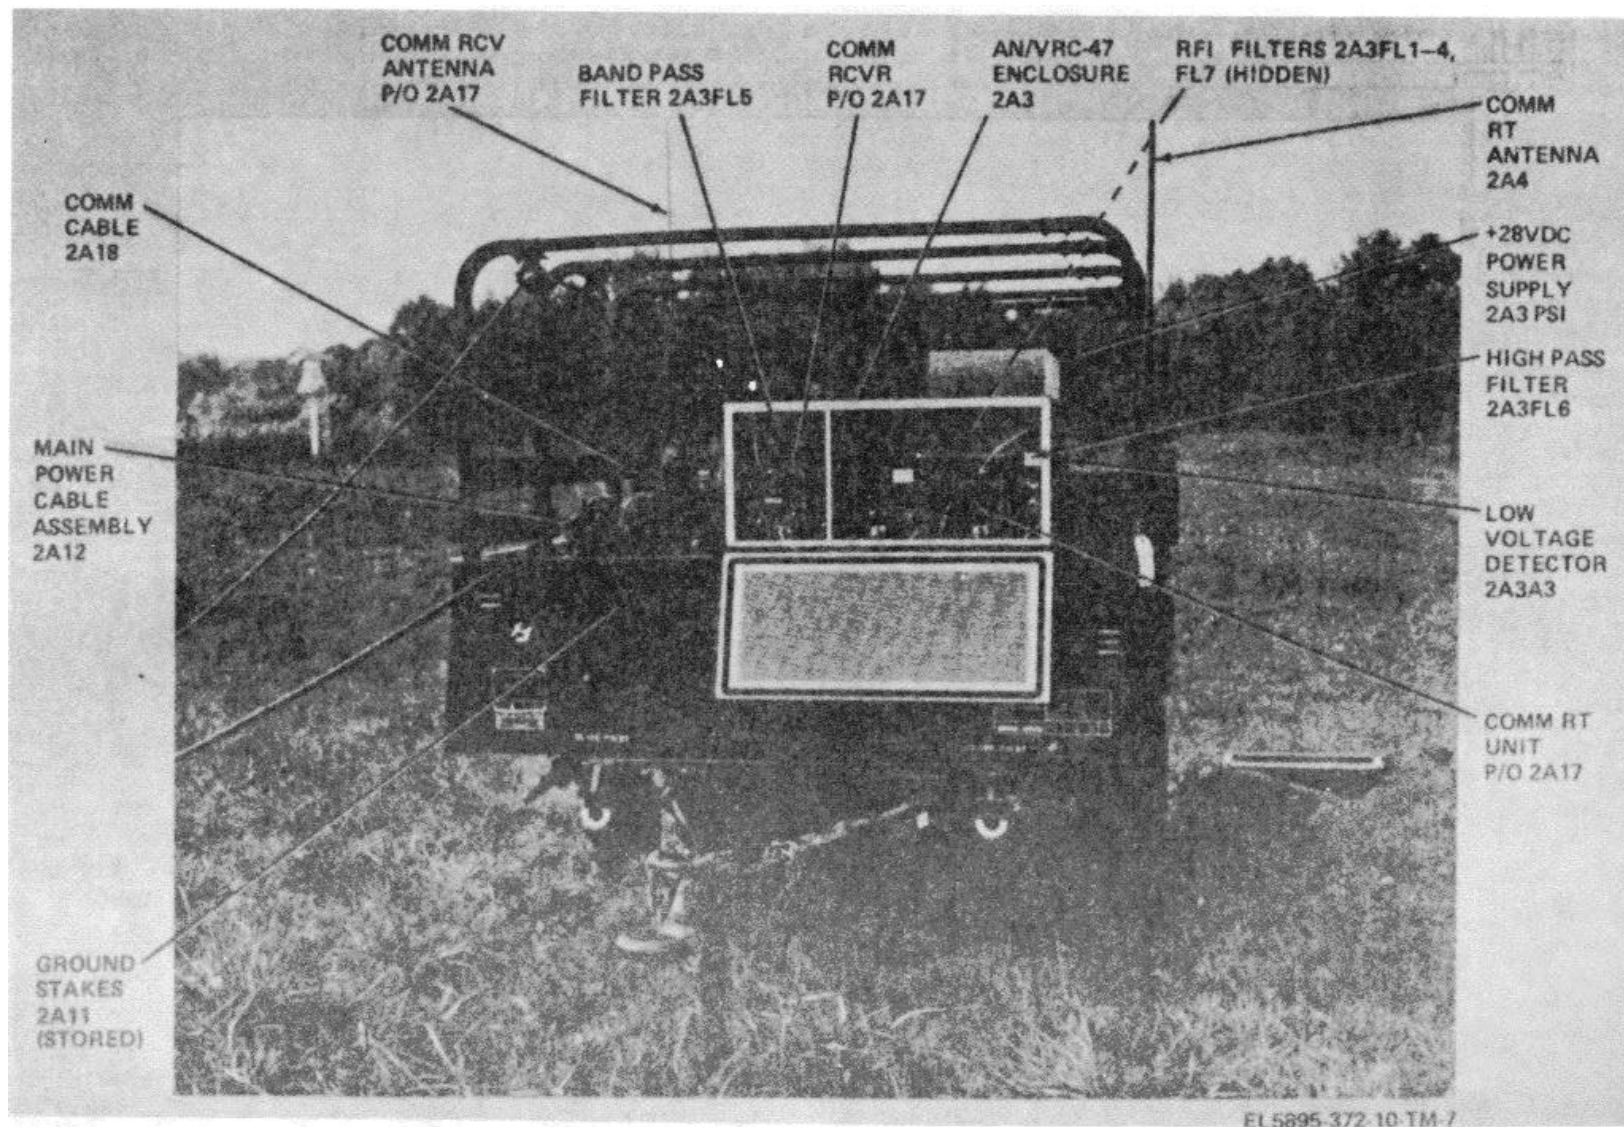

Figure 1-7. Trailer, front view
(8) *Comm cable* (fig. 1-7). The comm cable consists of a crank operated, ratchet-controlled, takeup reel which stores and dispenses the comm cable from the trailer to the power distribution box on the shelter.
(9) *Main power cable assembly* (fig. 1-7). The main power cable assembly consists of a springloaded, ratchet-controlled, take-up reel which stores and dispenses the main power cable from the trailer to the power distribution box on the shelter.
(11) *Ground stakes* (fig. 1-7). The ground stakes are located on the front inboard and outboard sides of the power unit trailer. The ground stakes